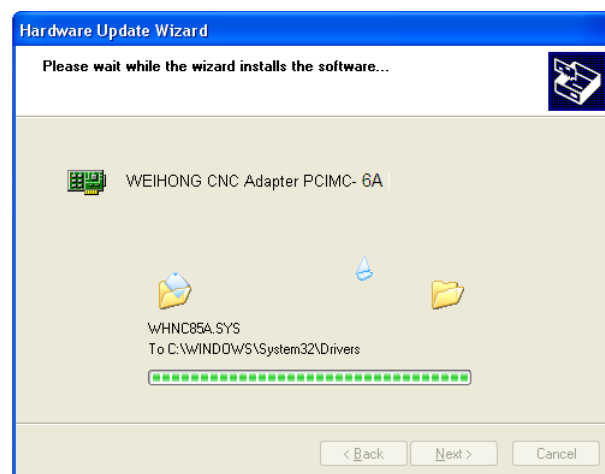

Fig. 2-7 Updating the driver
- 7) Click [OK] to go back, and then click [Next] to start updating the driver software. The progressing picture is shown as Fig. 2-7.